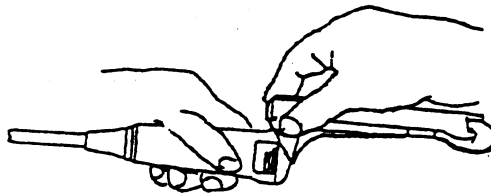

Fig.13
- 3) Push the other end of the Puncture Adapter until fix the dents of the Puncture Adapter to the projection on the probe. (See Fig.13.)